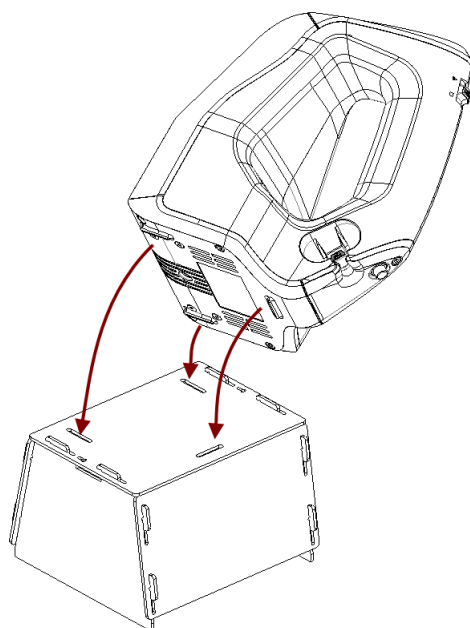

Figure 214: Placing Artec Spider on the stand
3. Place the scanner on the scanner stand, making sure that you insert the three scanner stems in the three slots of the stand cover (see Figure 214).